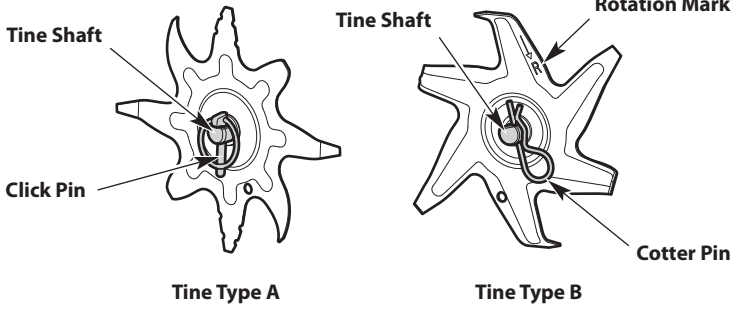

Fig. 9
3. Identify the type of tines included with the unit (Fig. 9).
1. Remove the pin from the end of each tine shaft (Fig. 9).
3. Insert a pin through the hole at the end of the tine shaft (Fig. 9).